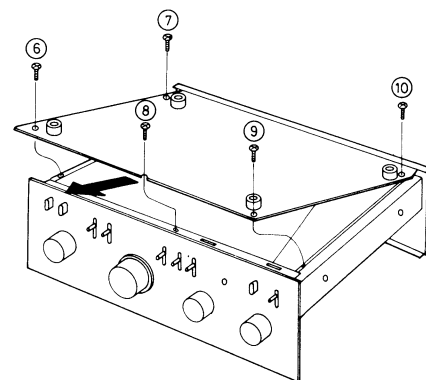

Fig. 2
2. Remove the five screws [fig. 2: ⑥~⑩] holding the bottom panel.
3. Because the rear edge of the bottom panel is inserted in the opening between the rear panel and the chassis, the bottom panel can be removed (in the direction shown by the arrow) by slightly lifting its front, as shown in figure 2.